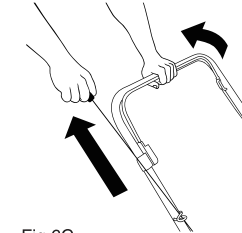

Fig.6C
3. To start the engine, hold the brake control bar down to the upper handle. (Fig. 6C)
4. Pull the starter handle slowly until resistance is felt, then pull rapidly. Return it slowly to the loop after engine starts.(Fig. 6C)